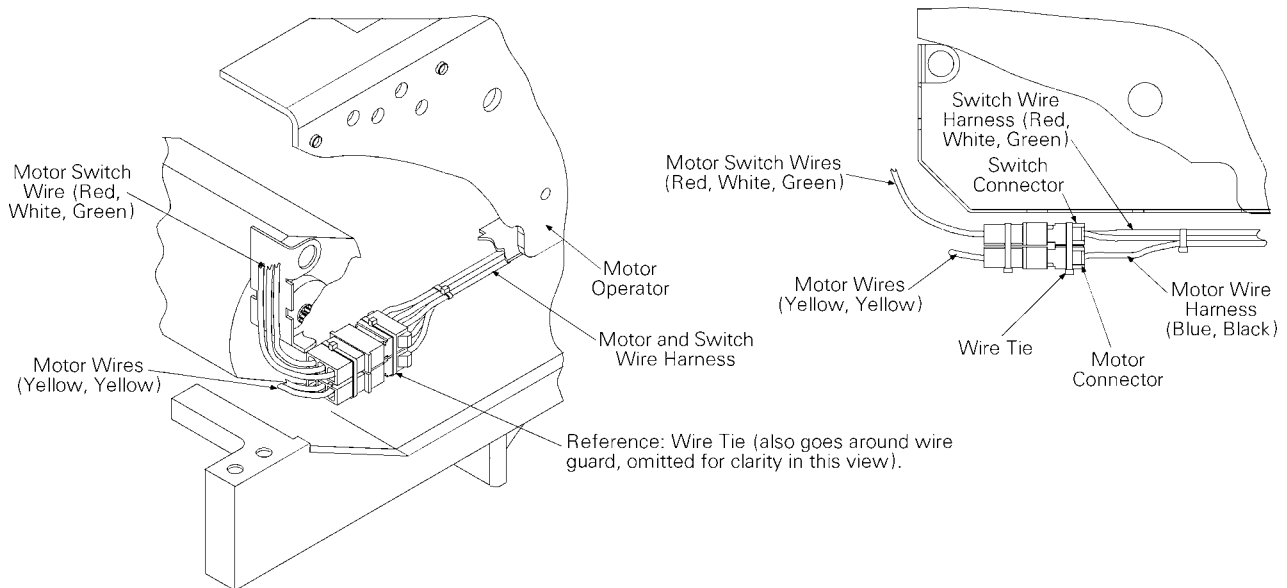

Figure 7. Installing the Motor Operator wires.
16. Dress the wires and install cable ties as shown in the illustration in Figure 7. Ensure that wires are clear of all moving parts.